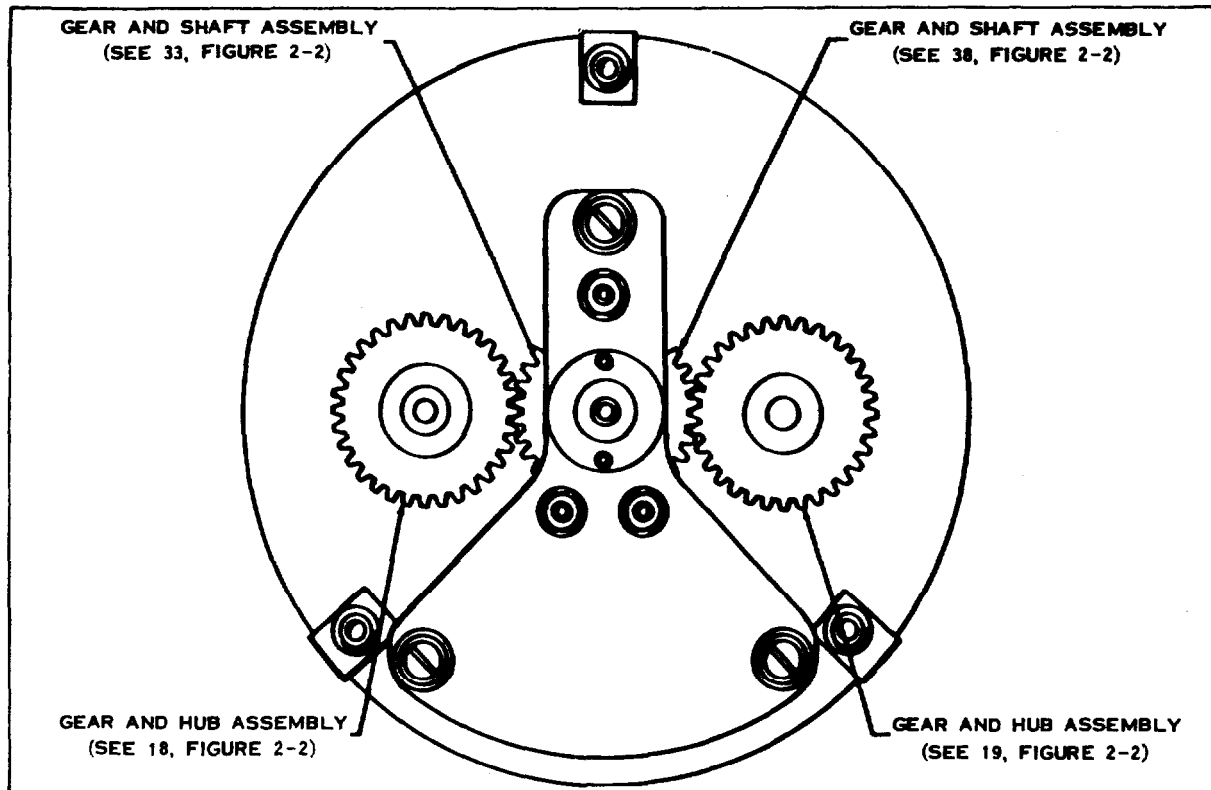

Figure 2-6. Gearing Arrangement
e. Place plate (2) on rear posts (6), and secure with three lock washers (4) and nuts (3). Set the instrument upright on the plate, and press pointer hub (1) onto gear and shaft assembly (38).
f. Press gear and hub assembly (16), on the shaft of its synchro (14). Press the gear and hub assembly down on the synchro hub until the teeth of gear and shaft assembly (38) are centrally meshed in the teeth of the gear and hub assembly as shown in figure 2-6. If necessary, ream the hub of the gear and hub assembly with a 3-degree taper reamer. When the gear faces are adjusted, slightly loosen two clamps (17) and, with gear preload holder QB71024-1, adjust synchro with minimum friction and backlash, tighten